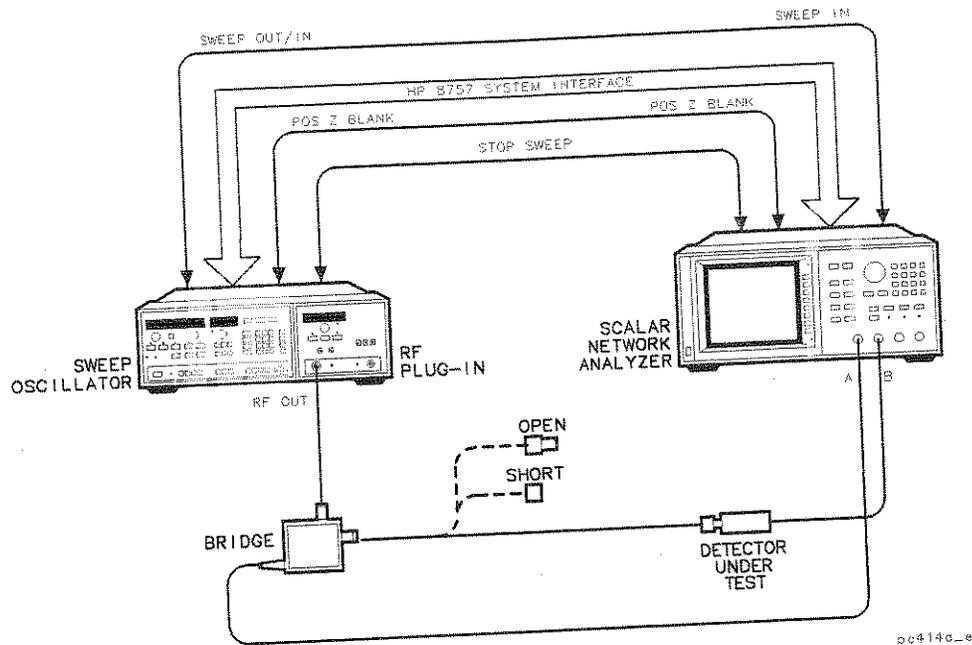

Figure 4-1. Setup for HP 85025A/B/D/E Return Loss Test
1. Connect the equipment as shown in Figure 4-1, leaving the directional bridge TEST PORT unconnected.